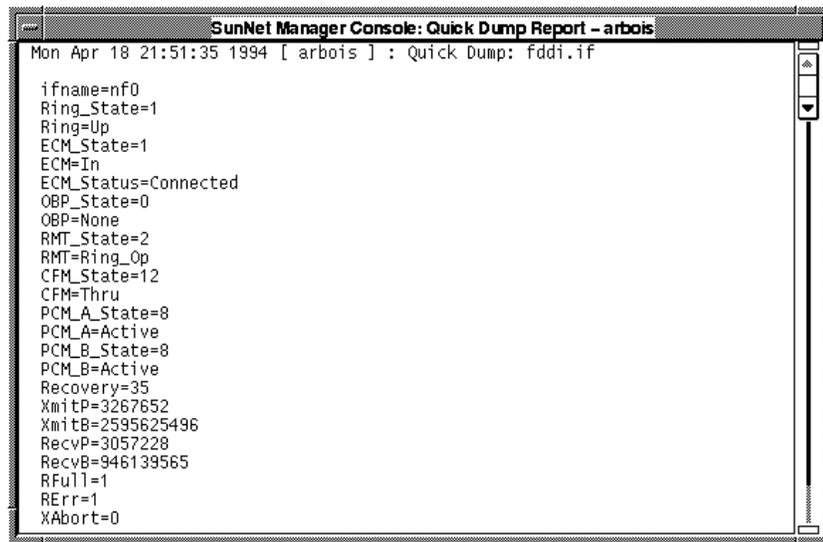

Figure 10-1 Quick Dump (Local Statistics)
4. Click **SELECT** on **Apply** to display local station statistics similar to those shown in Figure 10-1.